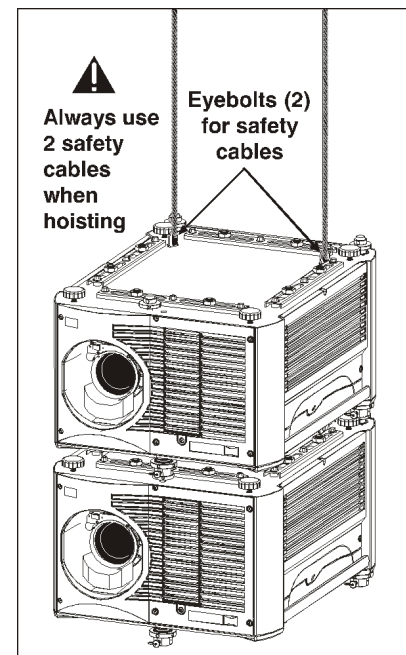

Figure 2-15 Attach Safety Cables
Attach a safety cable to each of the 2 eyebolts mounted on the bottom of the projector. See Figure 2-15. **NOTE:** Add eyebolts (2) if non-inverted.